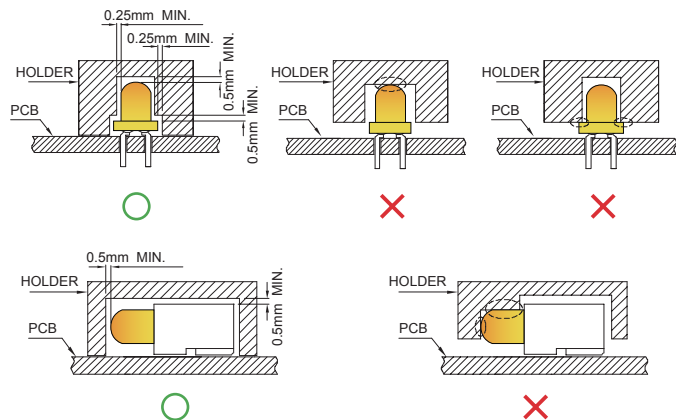

Fig. 7
- 4. During soldering, component covers and holders should leave clearance to avoid placing damaging stress on the LED during soldering. (Fig. 7)